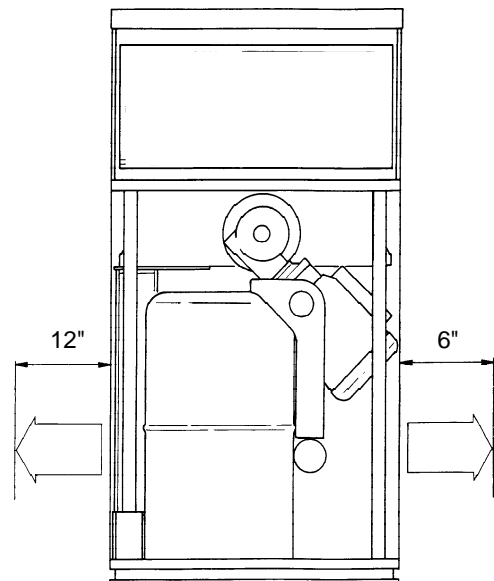

Figure 2
2) If your freezer is air cooled, you ***MUST*** have adequate spacing on both sides of the machine. You should have a minimum of 6 inches of clearance on the left side and 12 inches of clearance on the right side of the machine. This will ensure an adequate airflow is maintained.(Ref. to Figure 2)